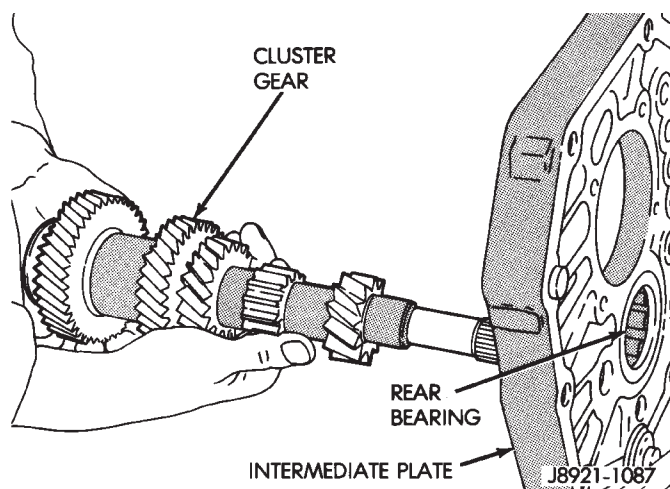

Fig. 57 Cluster Gear Removal
- (5) Remove cluster gear by pulling it straight out of rear bearing (Fig. 57).